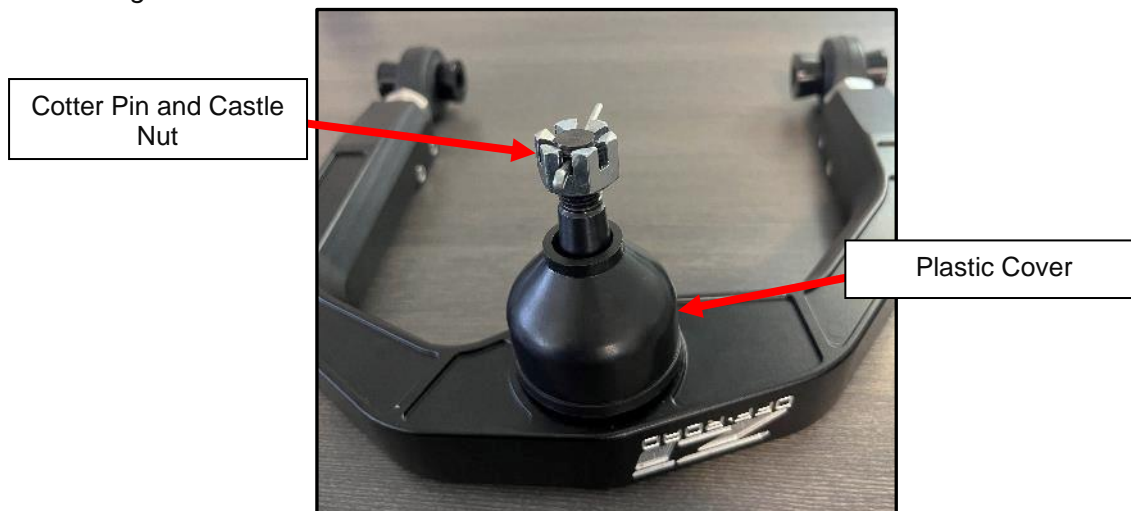

Figure 4
14. Remove the Cotter Pin and Castle Nut, then remove the plastic boot cover (shown below). This cover is only meant to protect the boot while in shipment, the Control Arm will not install if this plastic cover is not removed. *Figure 4.*